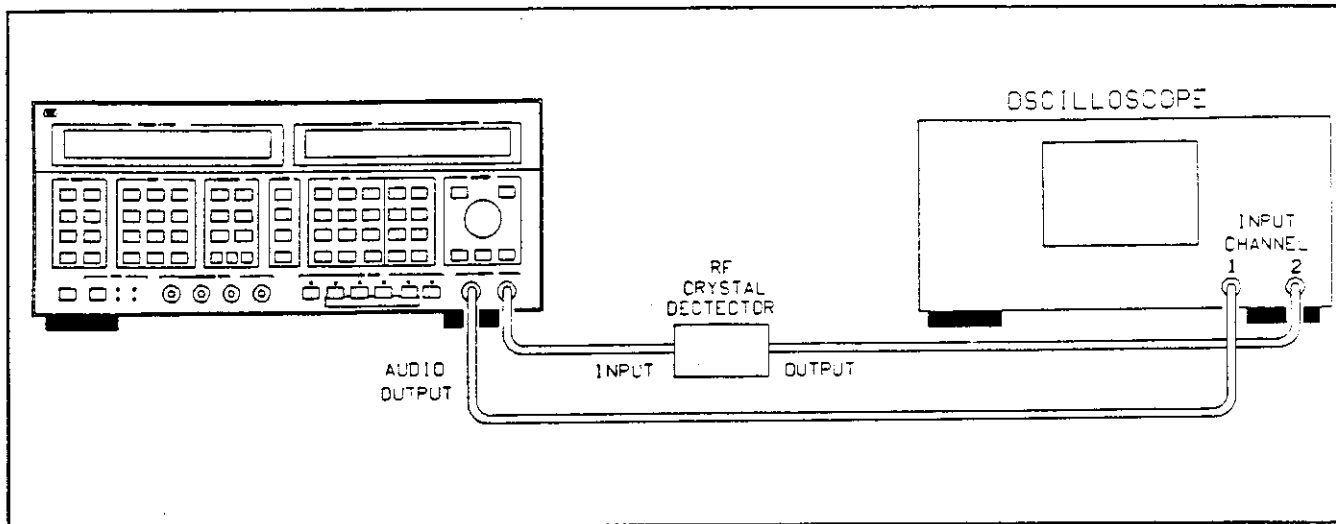

Figure 8-18. AM Test Setup 2
5. Connect the equipment as shown in figure 8-18.